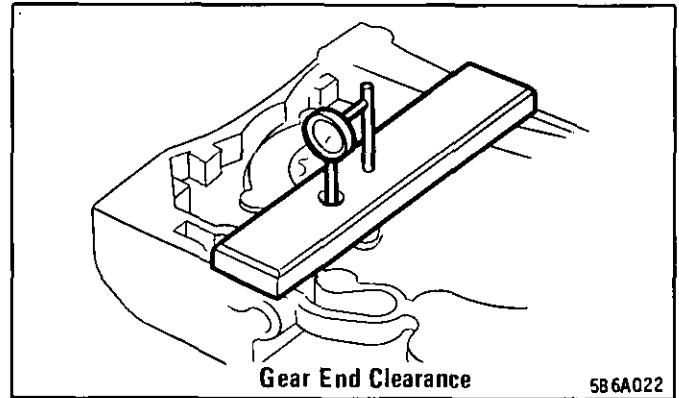

Figure 25 Gear End Clearance (Gear Drop In Housing) -Gerotor
- Gear end clearance (gear drop in housing). .025 mm - .089 mm (.001" - .0035"). See Figure 25.